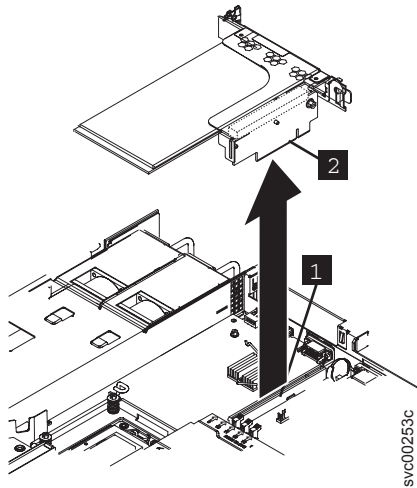

Figure 188. Removing the 10 Gbps Ethernet riser-card assembly
5. After removing the back-rail retaining screws for the Ethernet riser-card assembly, grasp the Ethernet riser-card assembly at either end and pull up out of the PCI slot 2 riser-card connector, as shown in Figure 188 on page 203. Once the Ethernet riser-card assembly clears the connector, gently twist the Ethernet riser-card assembly to separate the Ethernet riser-card assembly from the node.